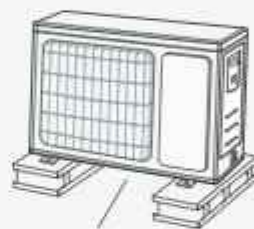

Fig.18
- The outdoor unit should be installed at least 3cm above the floor in order to install drain joint. (As show in Fig.18)